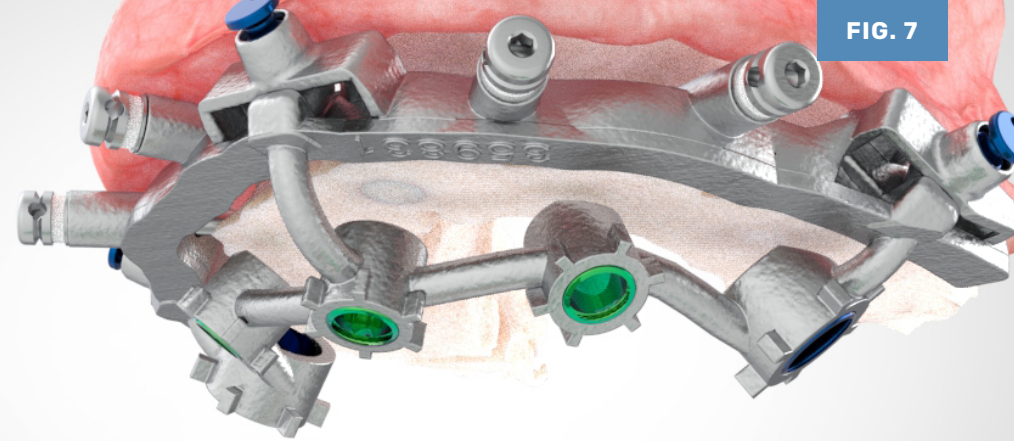

FIG. 7
1. Insert the Osteotomy Guide into the anchored Fixation Base. Use the CHROME Locs to ensure the guide is fully seated. **(FIG. 7)**